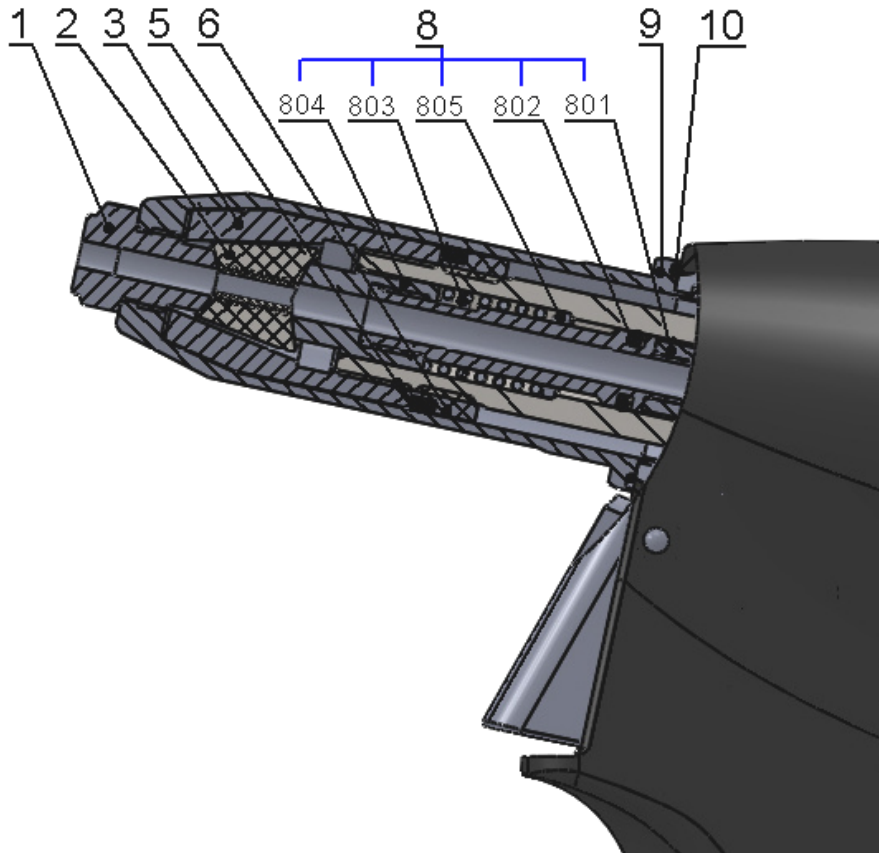
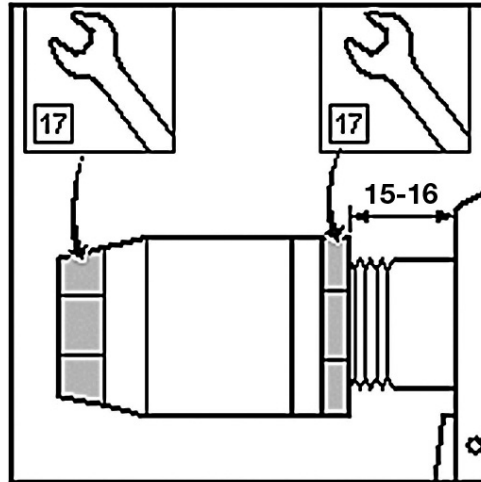

Fig.2
Fig.3
Disconnect the tool from the source of compressed air, unscrew the front nozzle /fig.2 - pos.9/ by means of a spanner no.23, set the spanner no.17(15) onto the clamping sleeve /fig.2 - pos.3/, set the spanner no.17 on the backnut /fig.2 - pos.6/ and loosen. Unscrew the clamping sleeve, replace the jaws /fig.2 - pos.2/ and conduit-suction complet /fig.2 - pos.8/. All used threads are clockwise. Clean the dismantled parts thoroughly and check them visually, especially the following:
- 1) Jaws /fig.2 – pos.2/ - if worn or damaged, replace it, if dirty, clean it with a wire brush.
- 2) Nose-piece /fig.2 – pos.1/ - for wear of functional surfaces of the taper.
- 3) Conduit-suction complet /fig.2 - pos.8/ - inspect parts of the assembly, jaw pusher /fig.2 - pos.804/, spring /fig.2 - pos.803/, washer of spring /fig.2 - pos.805/, O - ring /fig.2 - pos.802/ and conduit-suction /fig.2 - pos.801/ - if damaged or worn, replace it with a new one.
- 4) Front nozzle /fig.2 - pos.9/ - check for damage of the internal surface ($\varnothing 20$) .
- 5) Scraper ring /fig.2 - pos.5/ - if damaged or worn, replace it with a new one.
Mount the parts (see par. disassembly) in a reverse order. On the outer surface of the jaws /fig.2 – pos.2/ apply a drop of lubricating oil (we recommend hydraulic oil HYPIN AWHM 32 CASTROL), apply thin layer of plastic lubricant MOGUL LV 2-3 to the conduit-suction complet /fig.2 – pos.8/. Basic set-up of the jaws is performed as in fig. 3.